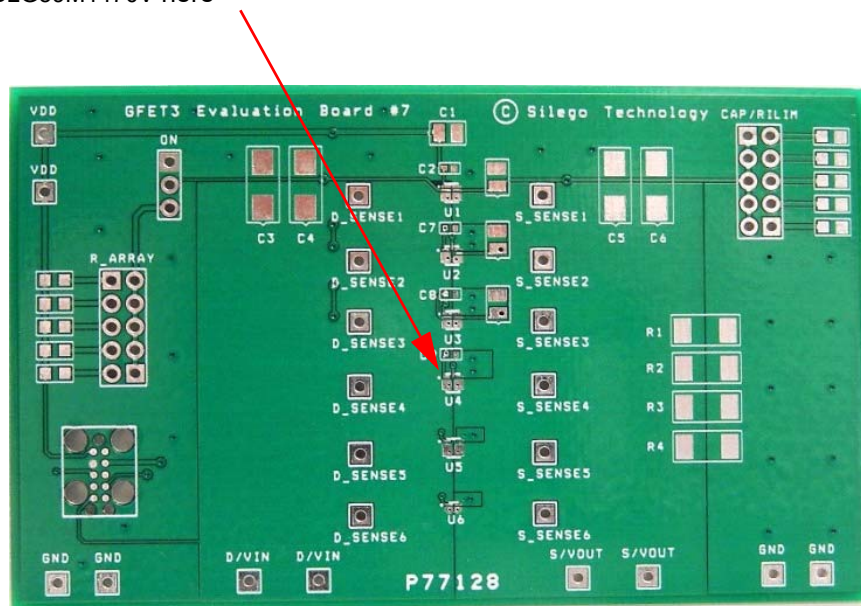

Figure 1. SLG59M1470V Evaluation Board
2. Since the D and S pins dissipate most of the heat generated during high-load current operation, it is highly recommended to make power traces as short, direct, and wide as possible. A good practice is to make power traces with absolute minimum widths of 15 mils (0.381 mm) per Ampere. A representative layout, shown in Figure 1, illustrates proper techniques for heat to transfer as efficiently as possible out of the device;
A GFET3 Evaluation Board for SLG59M1470V is designed according to the statements above and is illustrated on Figure 1. Please note that evaluation board has D\_Sense and S\_Sense pads. They cannot carry high currents and dedicated only for RDSON evaluation.